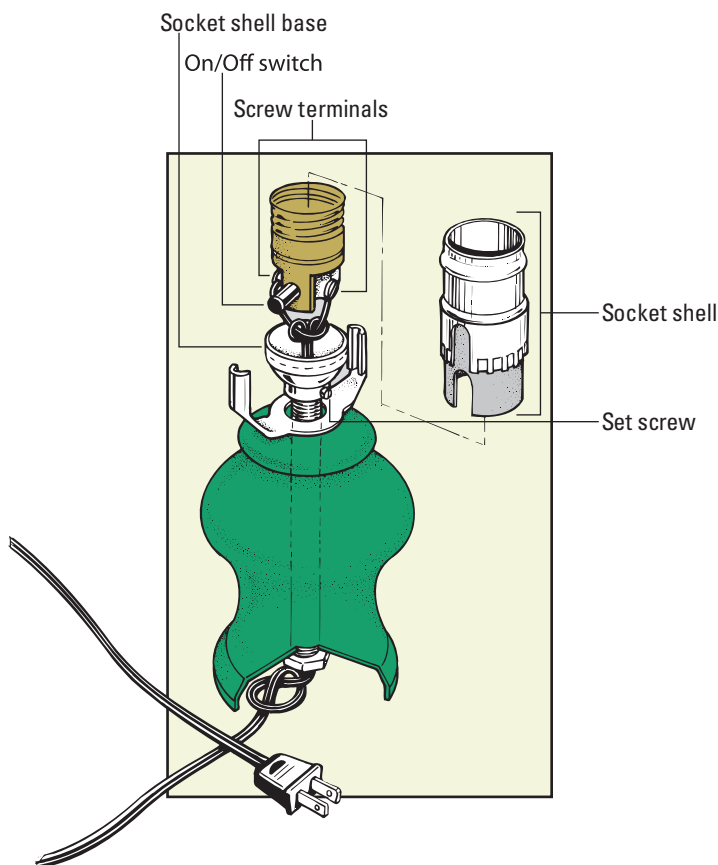

Figure 6-7:
3. Snap off the socket shell from the socket shell cap, as shown in Figure 6-7.